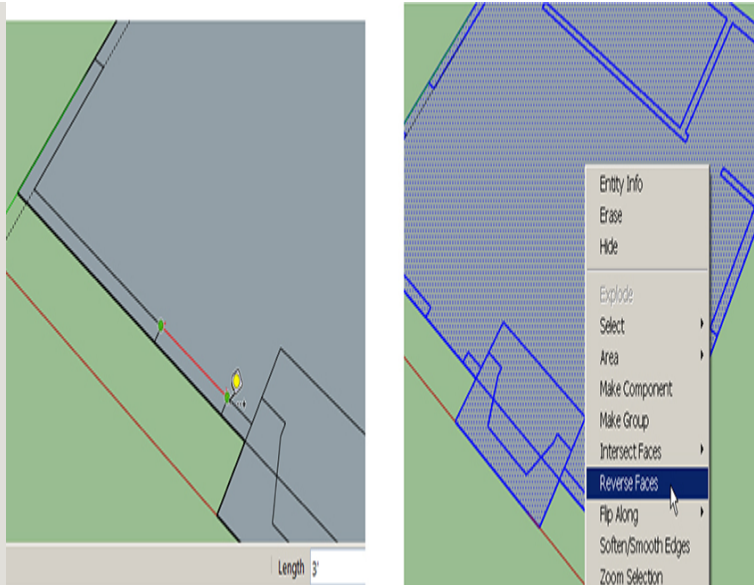

Figure 4-73 Scale the model by scaling an item with a known dimension. Reverse faces, if needed, so that the front (white) side shows up.
3. Scale the plan (Figure 4-73). Click the Tape Measure on opposite ends of an item with a known dimension. Here I've clicked on a door opening. After clicking on the second endpoint, immediately type the desired length. A note will appear asking if you want to rescale the model. Click Yes, and the model will scale proportionately to the size of the item you scaled. Note that the plan here has the front (white) side down, so select, right-click, and choose Reverse Faces to face it up.